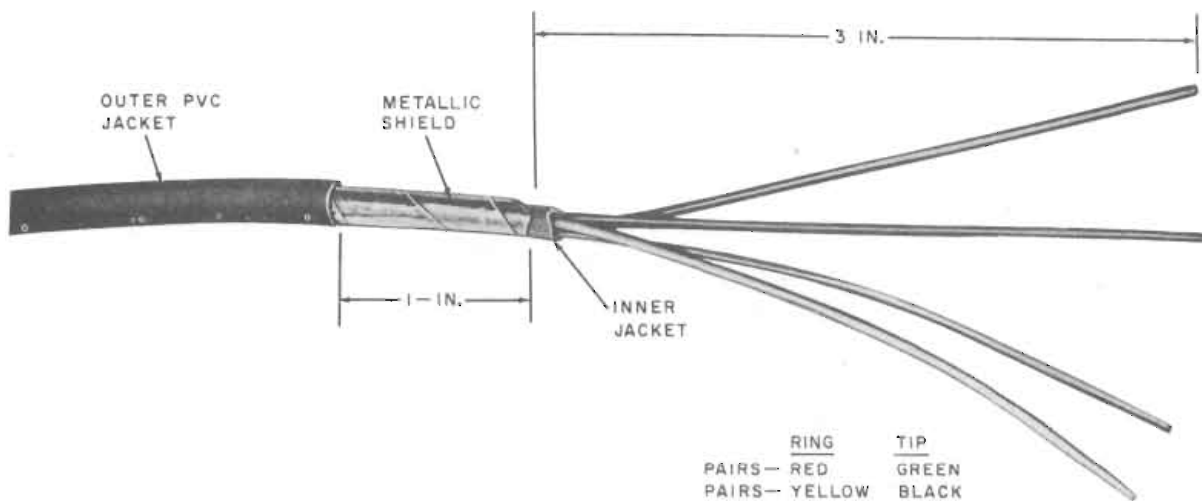

Fig. 44—Prepared Service Wire—15-Type Closure
13.08 Prepare the service wire as shown in Fig. 44.